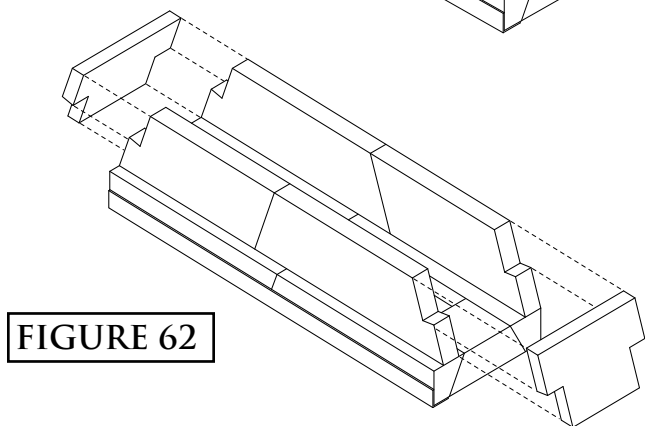

FIGURE 62
**Step 16:** Fit the top sloping smoke dome side wall components, part 34, in place between the front and back smoke dome arrangements at each end of the smoke dome (Figure 62).